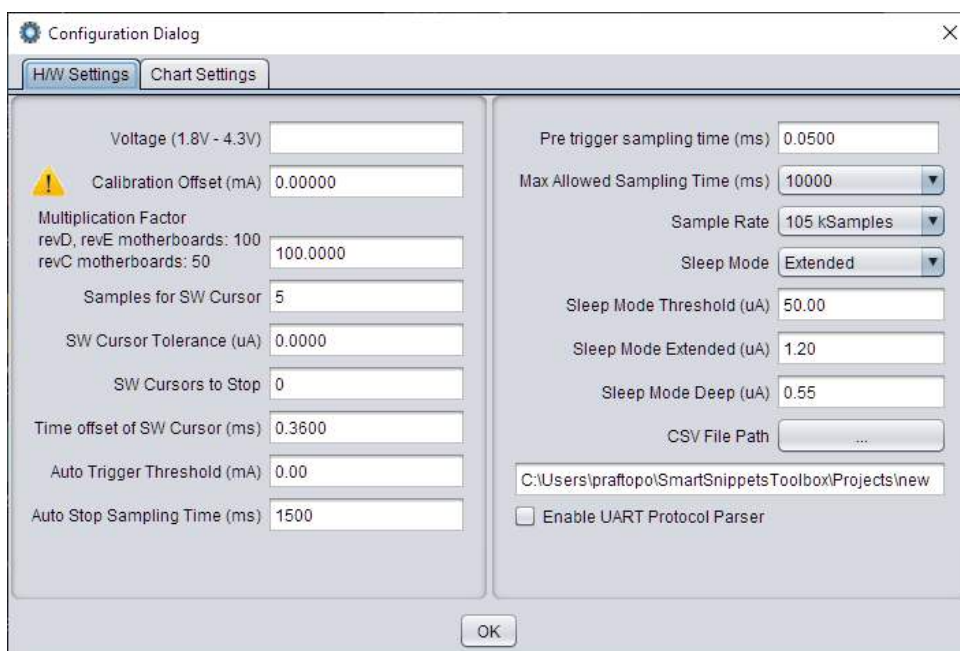

Figure 41: Power Profiler Configuration
2. Click the **Config** button in the lower right and check if everything is configured correctly (Figure 41).